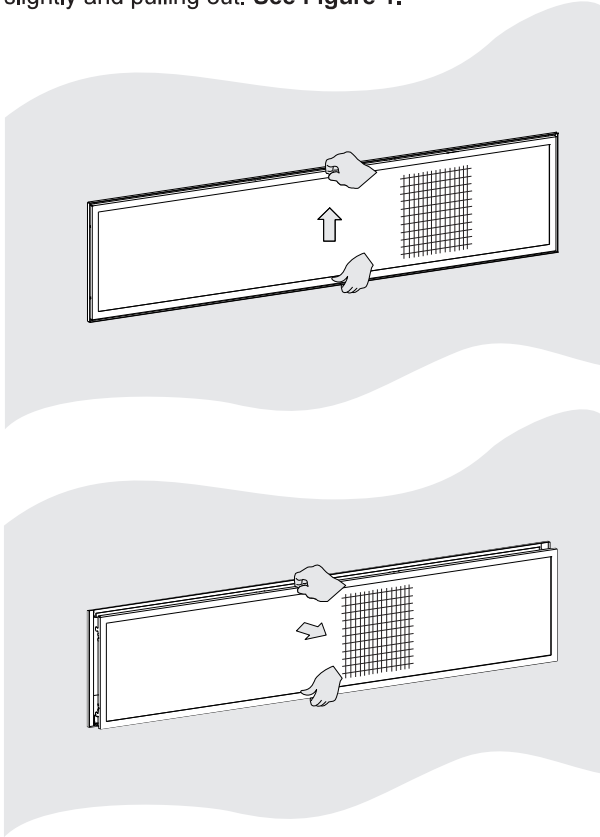

Figure 1
1. Remove barrier screen assembly from fireplace by lifting up slightly and pulling out. See **Figure 1**.